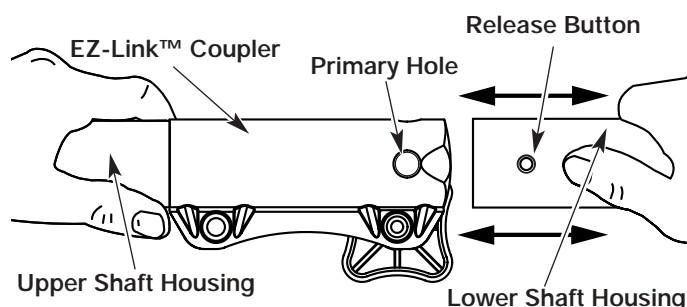

Fig. 24
3. While firmly holding the upper shaft housing, pull the cutting attachment or add-on straight out of the EZ-Link™ coupler (Fig. 24).
2. While firmly holding the add-on, push it straight into the EZ-Link™ coupler (Fig. 24).
CAUTION: Lock the release button in the primary hole (Fig. 24) and securely tighten the knob before operating this unit.